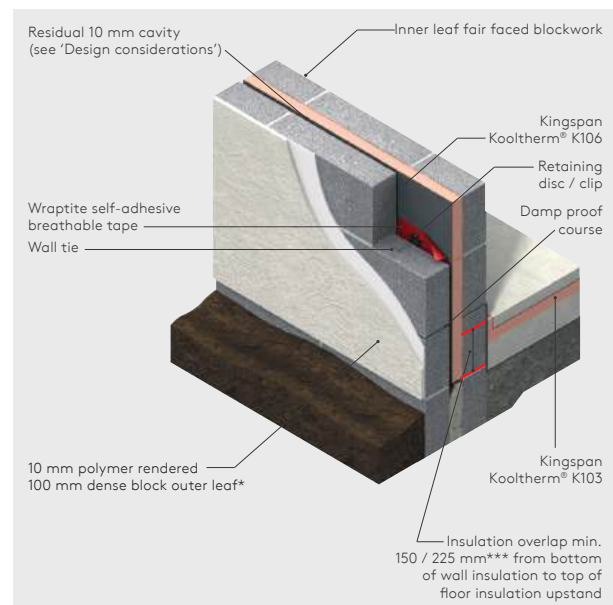
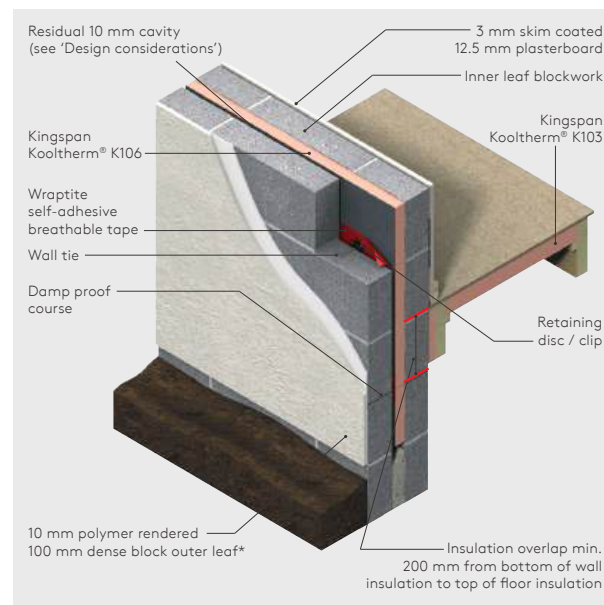

Figure 1
Figure 2
- In order to minimise cold bridging at the edge of ground floors, the distance between the top surface of the floor insulation or perimeter insulation upstand, and the bottom of the wall insulation must be a minimum of 150 / 225\* mm for a concrete floor (see Figures 1 & 4) and 200 mm for a suspended timber floor (see Figures 2 & 5). The further appropriate wall insulation extends past the floor insulation, the better the thermal performance of the junction between the wall and the floor.